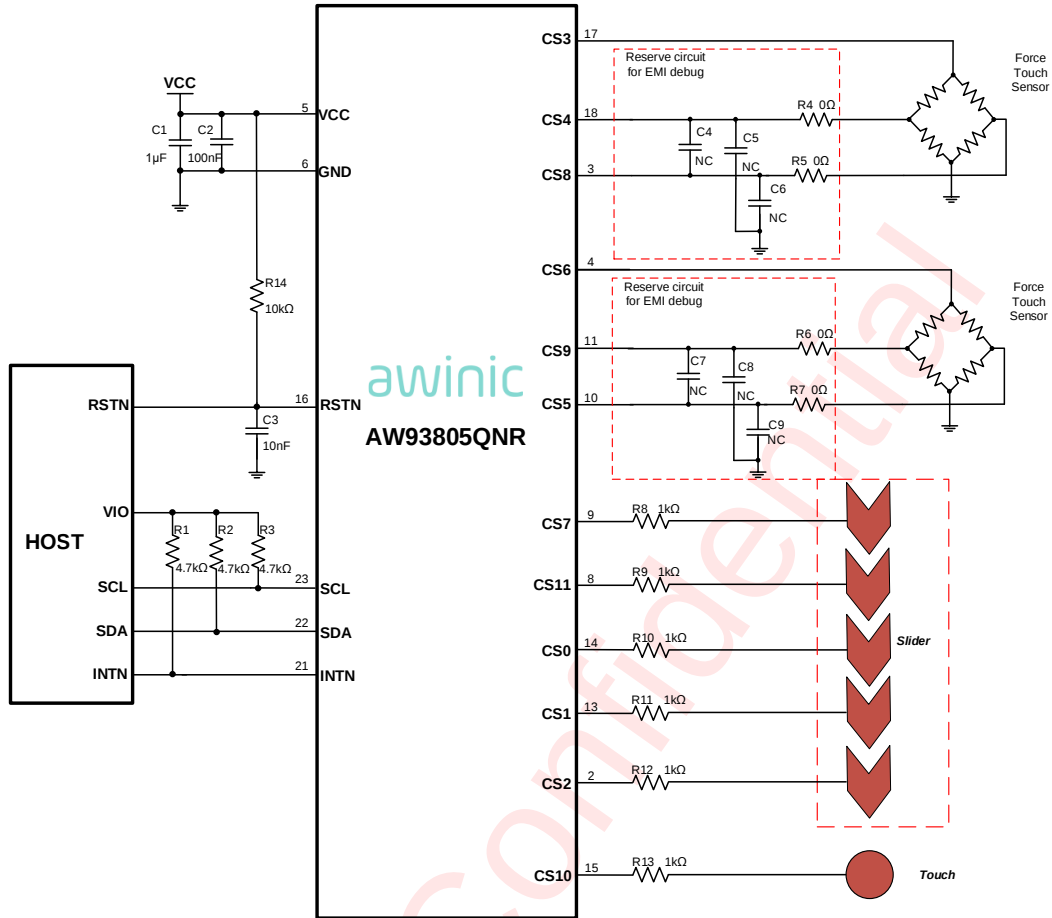

Figure 30 AW93805QNR Typical Application Circuit (force, touch and 1D slide)
4. Place differential channel (in Figure 30, pins CS4, CS8 and CS9, CS5 as shown) along with sensor channel to get better performance.